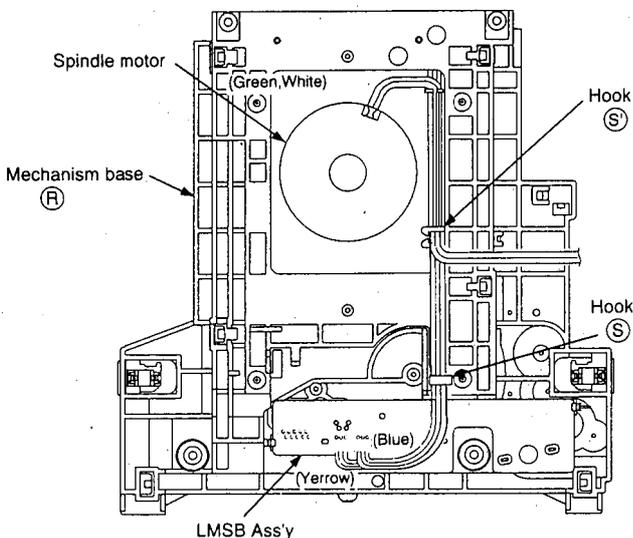

Fig. 1-6 Mechanism base the bottom side
6. Remove the lead wires from the hook **S** (Fig. 1-6) for the FG signal lead (yellow) wire and the carriage position detecting SW lead wire (blue) at the front of the mechanism base **R**.
7. Remove the lead wires from the hook **S** for the spindle motor lead wire (green, white), the FG signal lead wire (yellow), the carriage position detecting SW lead wire (blue) and the earth lead wire (black) at the center of the mechanism base **R** (Fig. 1-6).
5. Hook the lead wire for the spindle motor (green, white), the lead wire for the FG signal (yellow), the lead wire for the carriage position detecting SW (blue) and the earth lead wire (black) to the hook ⑥ (Fig. 1-6) on the bottom center of the mechanism base.
6. Hook the yellow and green wires to the hook ⑦ (Fig. 1-6) on the front bottom side of the mechanism base. And attach the lead wire to the each same color connector on the LMSB assembly.